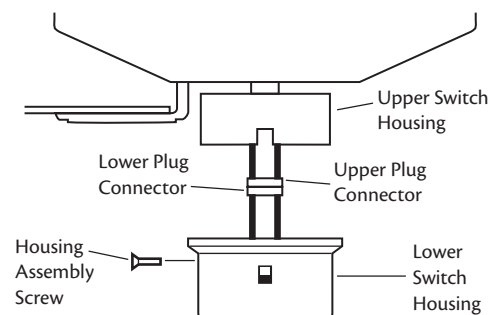

Figure 24 - Connecting the plug connectors
1. Connect the upper plug connector from the motor to the lower plug connector in the lower switch housing assembly. See Figure 24.
2. Place the lower switch housing assembly over the upper switch housing. Align the side screw holes in the upper and lower switch housings. Attach the lower switch housing to the upper switch housing with three #6-32 x 3/8" housing assembly screws. See Figure 24.